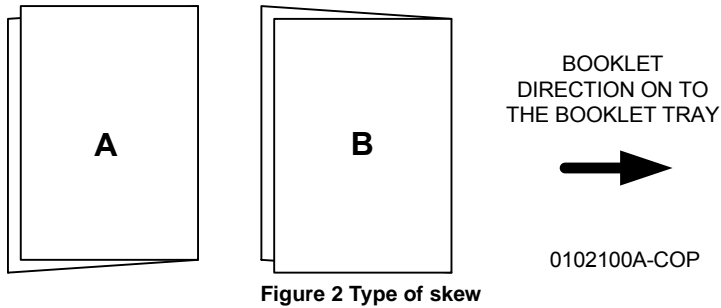

Figure 2 Type of skew
- b. Observe the booklet as it comes out on to the Booklet Tray (Figure 2) and determine the type of skew.